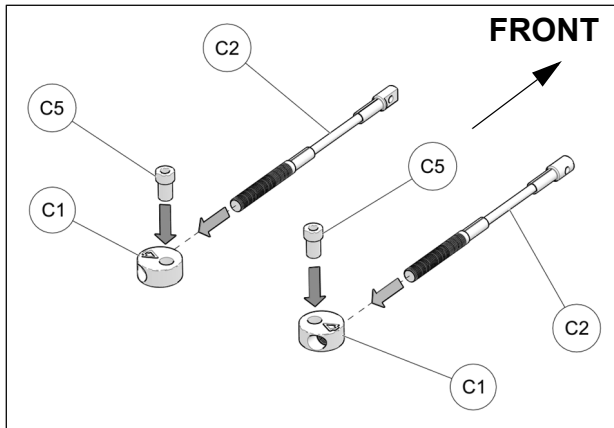

Fig. 23
11. Assemble steering limiter cables (C2), aluminum disks (C1) and step spacers (C5) together as shown on Fig. 23